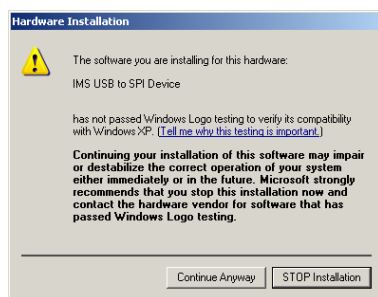

Figure A.7: Windows Logo Compatibility Testing
- 8) On the Dialog for Windows Logo Compatibility Testing, click “Continue Anyway” (Figure A.7).